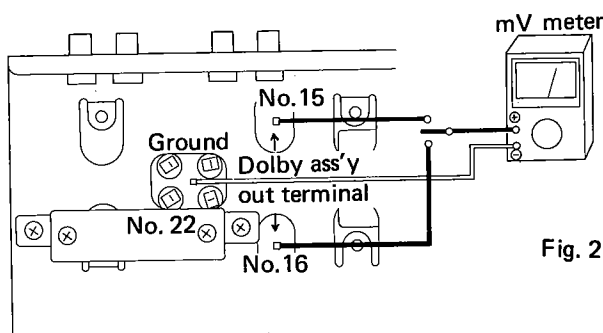
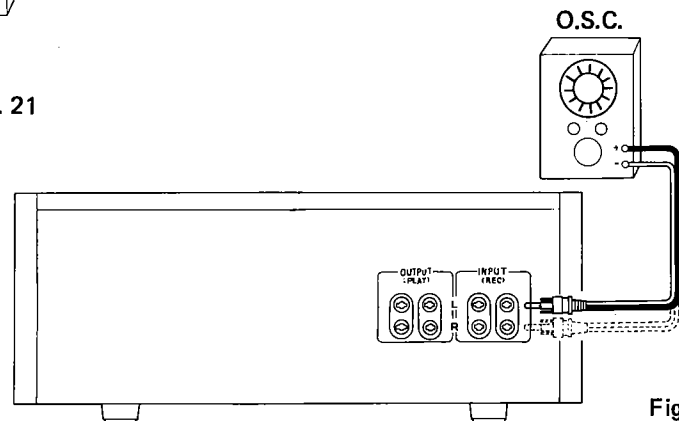

Fig. 21
Fig. 22
9.3 PLAYBACK LEVEL (Fig. 21)
9.4 0VU ADJUSTMENT (Fig. 21, Fig. 22)
9.9 RECORDING LEVEL (Fig. 21, Fig. 22)
9.12 LEVEL METER SCALE ACCURACY (Fig. 21)